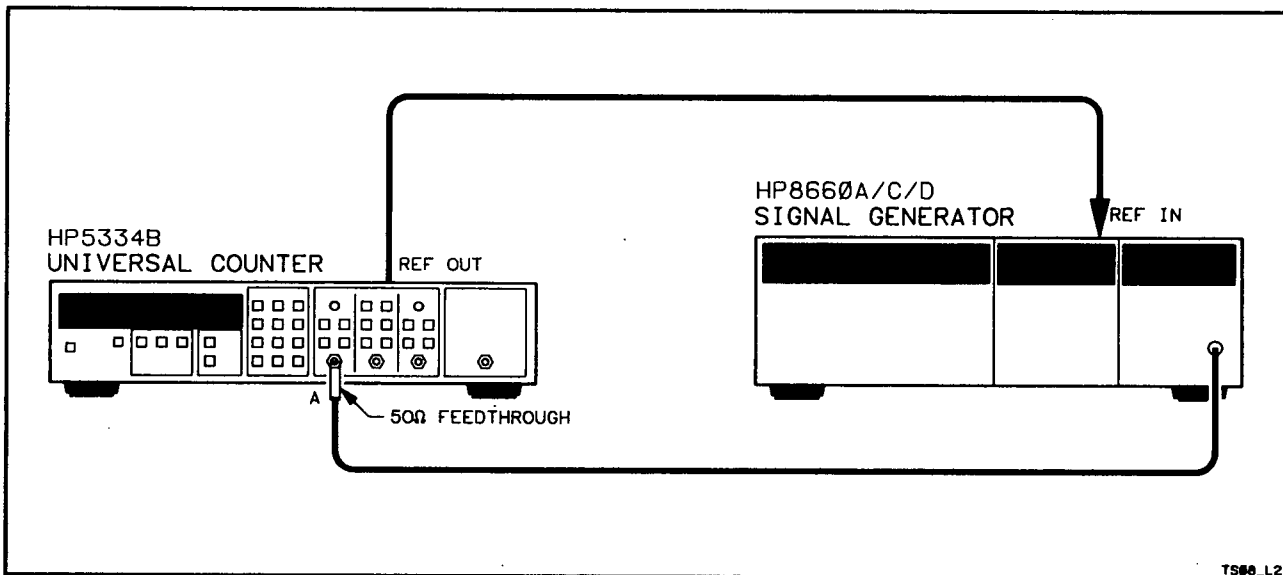

Figure 4-8. Period A Test Setup
3. Connect the signal generator output to the HP 5334B Input A using a 50 Ohm feedthrough connector as shown in *Figure 4-8*.